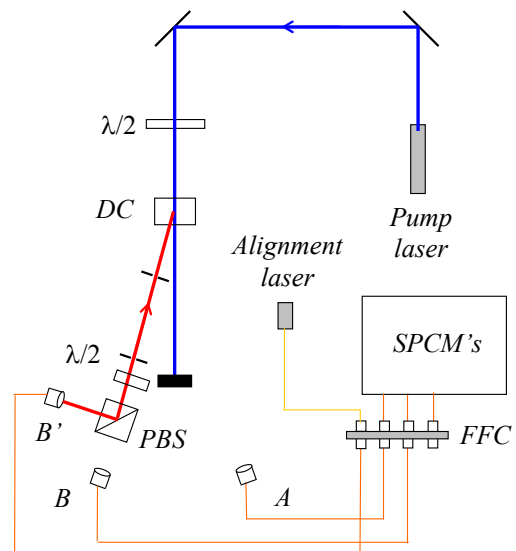

Fig. 4. Aligning the *B'* detector.
- Unscrew the **B**-fiber from the alignment laser, and reconnect it to the fiber leading to the detector. Connect the **B'**-fiber to the alignment laser, as shown in Fig. 4. At this point the beam won't go back through the irises.